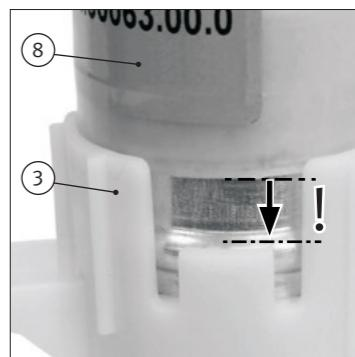

Abb. 5/Fig. 5/Puc. 5/图5
- Push the applied tool (8) firmly onto the pump until the tool lies against the circulating bulge of the pump (see Fig. 5). The tool (8) thus opens up the holder (3).